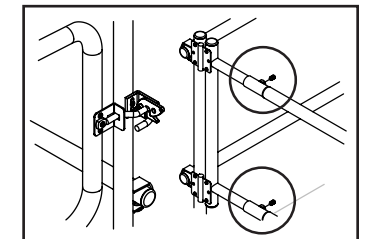

FIG. 10
- e. Install telescoping side of the gate with installed hook onto the hinged piece to fit exit opening. Make sure the hook pin properly engages the latch catch and tighten set screws. (Fig. 10)